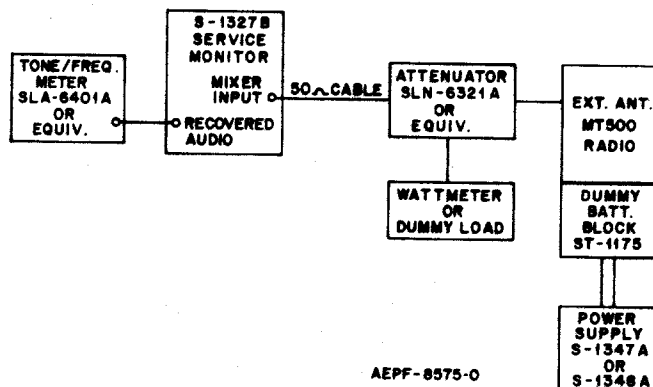

Figure 44. Unit ID Test Equipment Setup Diagram
- (4) Connect the test equipment as shown in Figure 44.